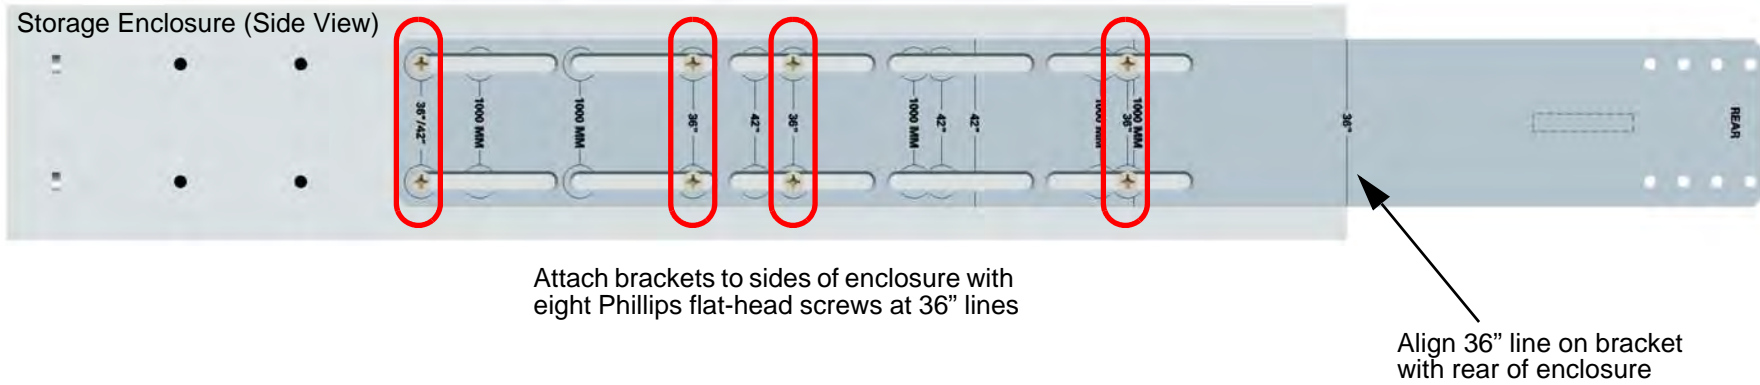

Figure 2.10 - Storage Enclosure Install, Four-Post Rack, Front Mount (36-inch Rack)
- 36-inch rack (see Figure 2.10)